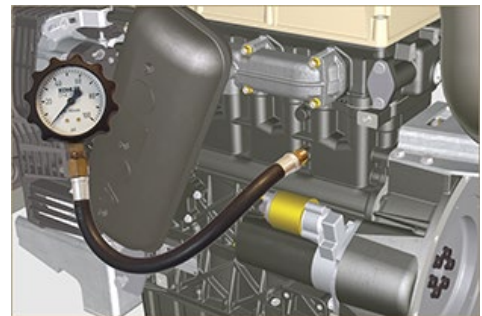

Fig. 12.8
2. Unscrew and remove the oil pressure switch **B** and screw on a 10 bar pressure gauge in its seat (**Fig. 12.8**).